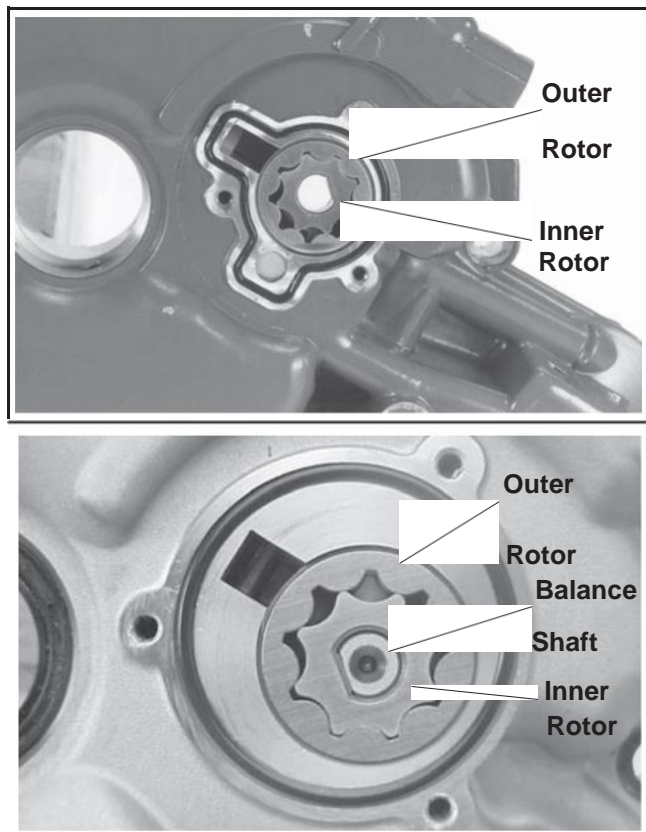

Figure 11-23. Installing Oil Pump Gears and O-Ring.
1. Lubricate the oil pump cavity and oil pump rotors with engine oil. Install the outer and inner oil pump rotors. See Figure 11-23.